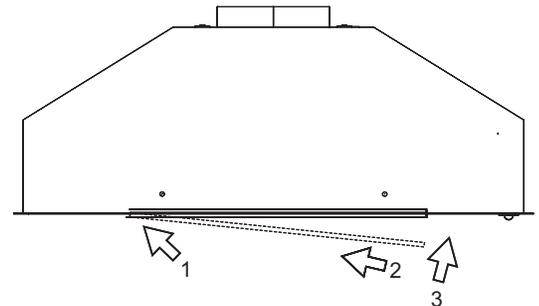

FIG 5
**Installing Aluminum Mesh Filter, FIG 5:**